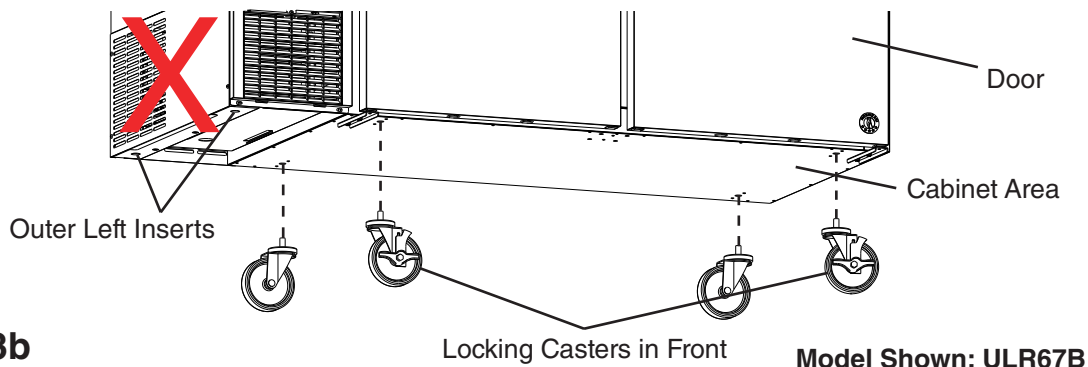

Fig. 3b
- b) **XLX60B(-DX) and XLX67B(-DX):** Attach the 4 casters under the cabinet area. See Fig. 3b. **WARNING! Do not attach the casters under the compressor area in the outer left inserts. NOTICE! Ensure casters are completely threaded into appliance and tight.**